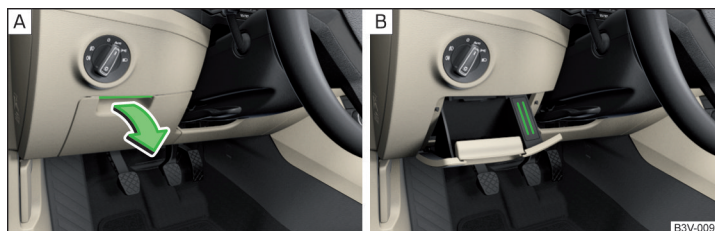

Fig. 106 Opening the storage compartment / card holder
- To **open**, lift the handle and fold out the compartment » Fig. 106 **A**.
A card holder is located in the storage compartment » Fig. 106 **B**.